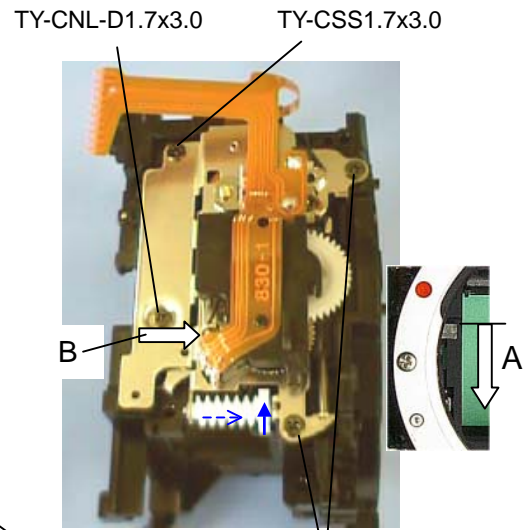

Fig.64
- 1) Latch the lever (B) while pushing down the sliding plate (A) as shown in Fig.64.